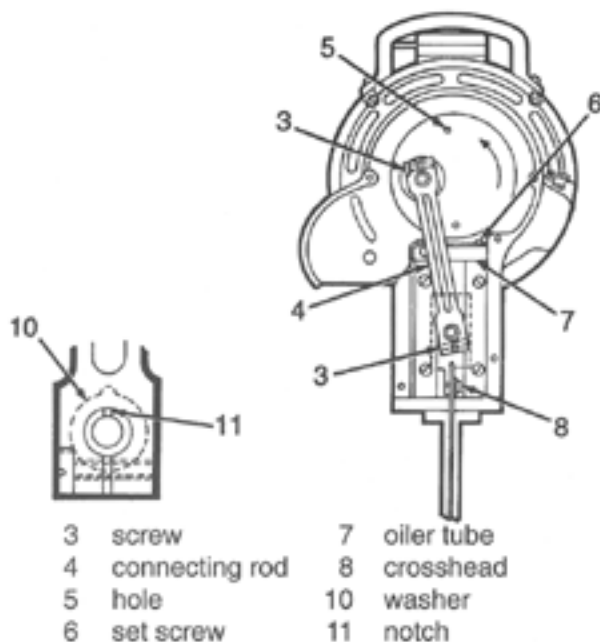

Figure 13. Freeing Frozen Guides
- Loosen the screws (Figure 13, 3) and remove the connecting rod (Figure 13, 4).
- Insert the drift pin in the hole (Figure 13, 5) in the crank and tap with a light hammer in the direction of the arrow. This will loosen the crank.
- Loosen the set screw (Figure 13, 6) using a No. 564 Allen key (.078 hex) and remove the oiler tube (Figure 13, 7).
- Remove the crosshead (Figure 13, 8) from the guides.
- Oil the bearing surface of the guides, insert the crosshead, and reassemble the machine. Ensure the washer (Figure 13, 10) is in place between the connecting rod and crosshead.
The wrist pin must be installed with the notch (Figure 13, 11) at top center. If the wrist pin is not installed correctly, the flow of oil to the wrist pin bearing will be cut off.